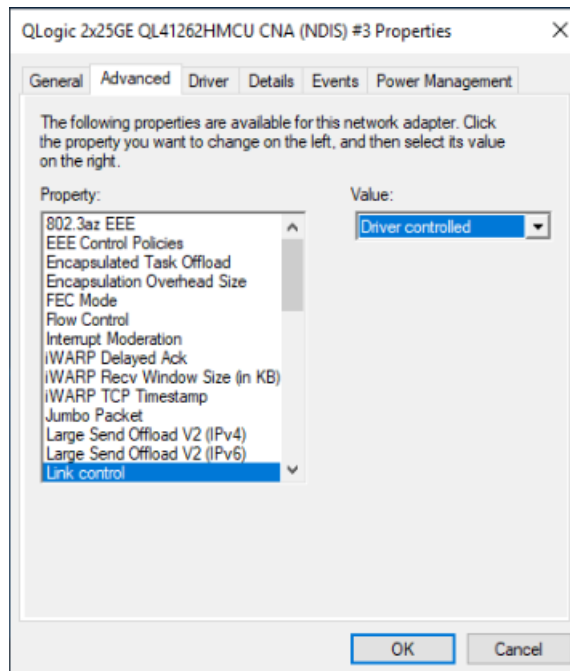

Figure 3-11. Setting Driver Controlled Mode
- **Driver Controlled** mode should be set when you want to configure the link settings from Advanced tab of the Device Manager (as shown in Figure 3-11).
This configuration is effective only when the link control property is set to Driver controlled (see Figure 3-11).
- b. In the Value menu, select **Driver controlled**.See Figure 3-11 for an example.